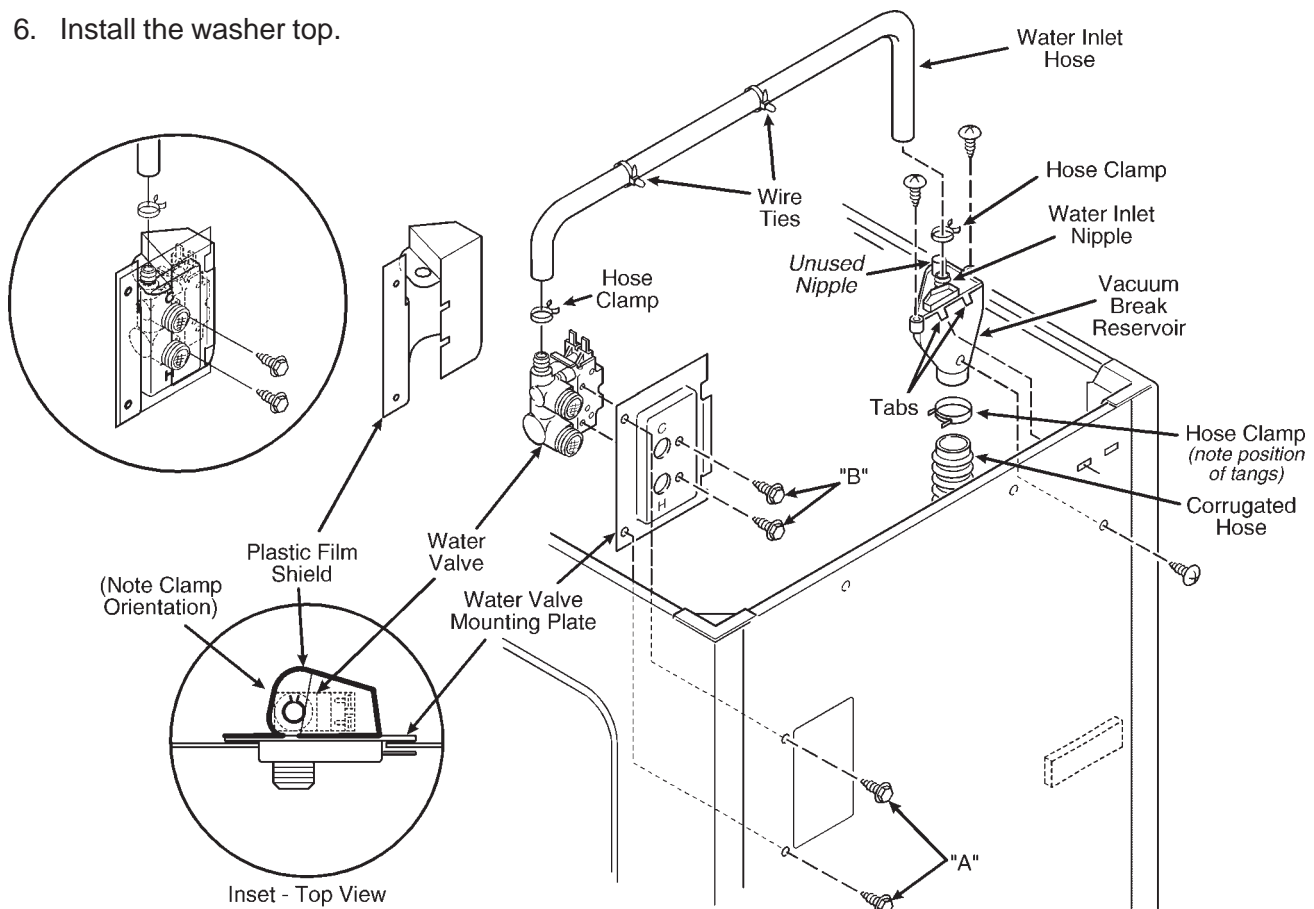

Fig. 11
Refer to Figures 11 and 12 for these procedures.
2. Install the corrugated hose onto the top end of the inlet fitting with a hose clamp. Position the tangs as shown in figure 11.